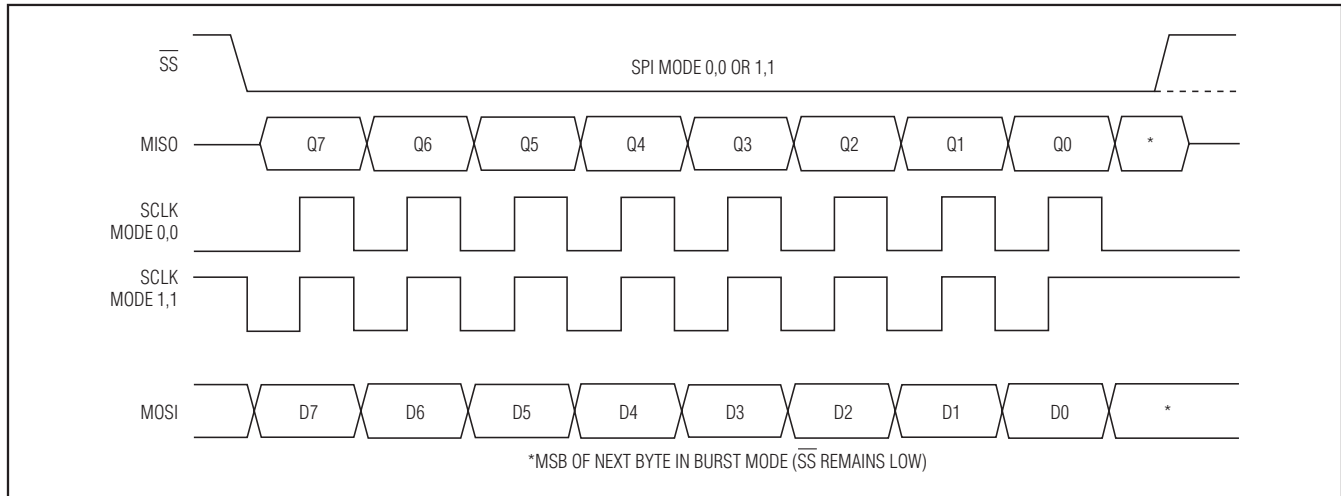

Figure 14. SPI Clocking Modes
The SPI master provides the MAX3420E SCLK signal to clock the SPI interface. SCLK has no low-frequency limit, and can be as high as 26MHz. The MAX3420E changes its output data (MISO) on the falling edge of SCLK and samples input data (MOSI) on the rising edge of SCLK. The MAX3420E ignores SCLK transitions when \overline{SS} is high. The inactive level of SCLK may be low or high, depending on the SPI operating mode (Figure 14).
The MAX3420E SPI interface operates without adjustment in either SPI mode ($CPOL = 0$, $CPHA = 0$) or ($CPOL = 1$, $CPHA = 1$). No mode bit is required to select between the two modes since the interface uses the rising edge of the clock in both modes. The two clocking modes are illustrated in Figure 14. Note that the inactive SCLK value is different for the two modes. Figure 14 illustrates the full-duplex mode, where data is simultaneously clocked into and out of the MAX3420E.
- (1) When \overline{SS} is high, the MAX3420E is unselected and tri-states the MISO output.
- (2) After driving SCLK to its inactive state, the SPI master selects the MAX3420E by driving \overline{SS} low. The MAX3420E turns on its MISO output buffer and places the first data bit (Q7) on the MISO output (Figure 14).
- (3) The SPI master simultaneously clocks the command byte into the MAX3420E MOSI pin, and USB status bits out of the MAX3420E MISO pin on the rising edges of the SCLK it supplies. The MAX3420E changes its MISO output data on the falling edges of SCLK.
- (4) After eight clock cycles, the master can drive \overline{SS} high to deselect the MAX3420E, causing it to tri-state its MISO output. The falling edge of the clock puts the MSB of the next data byte in the sequence on the MISO output (Figure 14).
- (5) By keeping \overline{SS} low, the master clocks register data bytes out of the MAX3420E by continuing to supply SCLK pulses (burst mode). The master terminates the transfer by driving \overline{SS} high. The master must ensure that SCLK is in its inactive state at the beginning of the next access (when it drives \overline{SS} low). In full-duplex mode, the MAX3420E ignores data on MOSI while clocking data out on MISO.